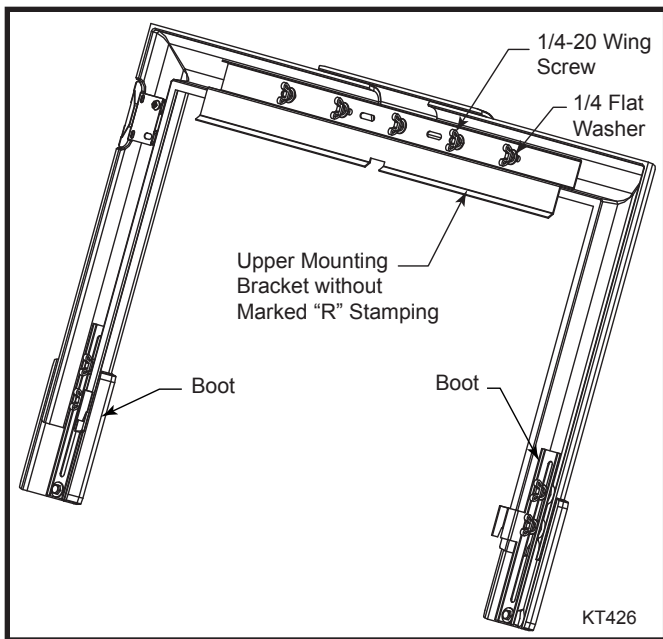

Fig. 6 Install upper mounting bracket.
4. Install the upper mounting bracket. Use the upper mounting without the marked "R" stamped on the face. (Fig. 6)
5. Fasten the upper mounting bracket to the key with a 1/4-20 wing screw and 1/4 flat washer finger tight. (Fig. 6)